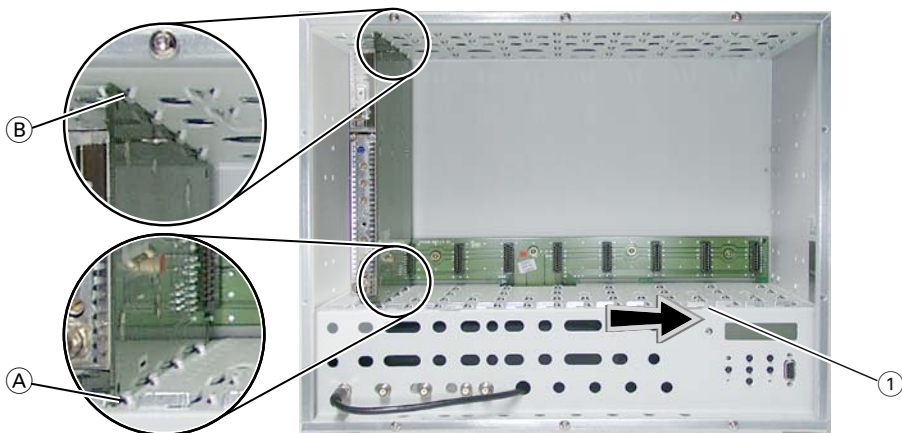

Fig. 2
- Insert the FM amplifier in grooves ① and ② of an open slot (fig. 2) and gently slide it into the head-end station until it makes contact with the board on the rear wall.
- After installing the module close the locking device ① in the direction of the arrow (fig. 2).